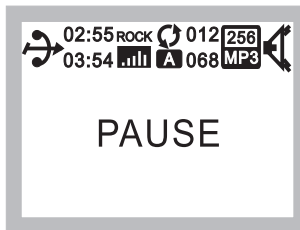

Fig. 9
(B) Press PLAY/PAUSE button  to pause track, Fig. 9: